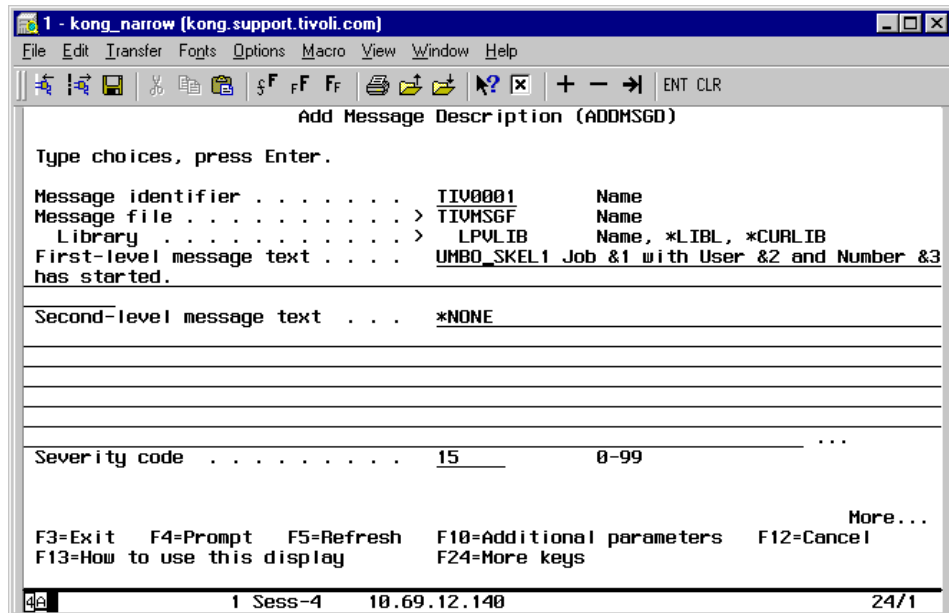

Figure 221. Add Message Description (ADDMSGD)
4. Complete the first screen, Add Message Description (ADDMSGD) panel, as we shown in Figure 221 on page 373.